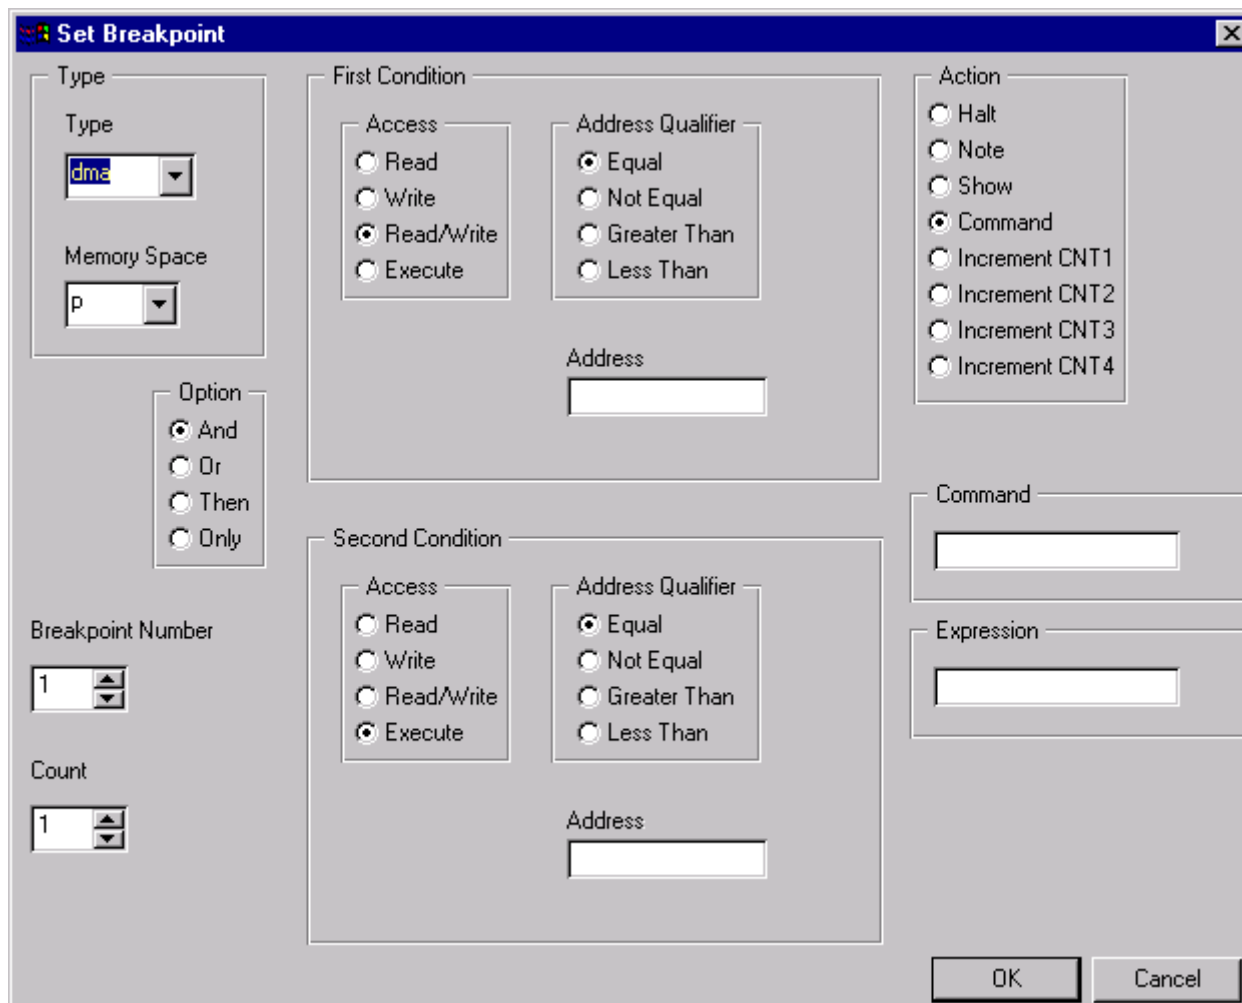

Figure 2-8. Setting a Hardware Breakpoint
1. From the **Execute** menu, choose **Breakpoints**, then select **Set Hardware**. The dialog box in Figure 2-8 appears.